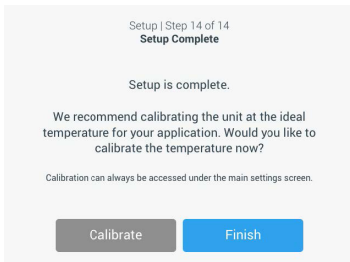
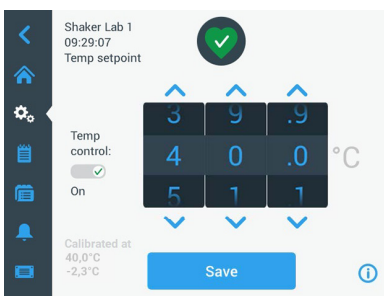

Figure 30: Initial startup - calibrate or finish setup
Figure 38: Set Temp Setpoint: Screen with Calibration Readout
1. Tap anywhere on the **Temp Setpoint** field (bottom section of item ⑥ in Figure 30) to open the **Temp Setpoint** screen shown in Figure 38.